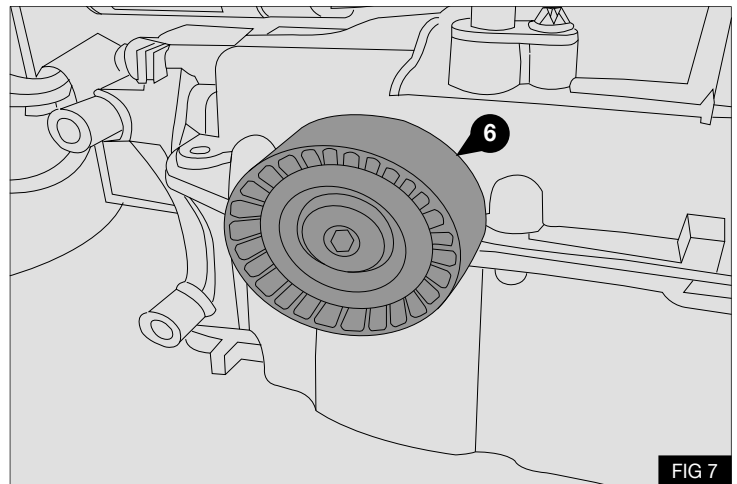

FIG 7
3. Using the supplied pulley (6) cut a thread into the hole in the sump in position shown - Fig 7